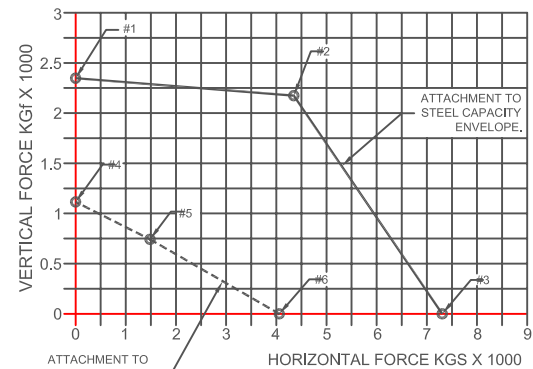

FIGURE 1
1) READ THE ANCHORED (CONCRETE) OR BOLTED (STEEL) ENVELOPES DIRECTLY FROM FIGURE 1 AT RIGHT
- 3) PLOT THE VERTICAL RESTRAINT CAPACITY FROM CURVE #1 (FIGURE 2) OR #4 (FIGURE 3) ON THE VERTICAL AXIS OF FIGURE 1.
- 4) PLOT THE HORIZONTAL RESTRAINT CAPACITY FROM CURVE #3 (FIGURE 2) OR #6 (FIGURE 3) ON THE HORIZONTAL AXIS OF FIGURE 1.
- 5) PLOT THE COMBINED RESTRAINT CAPACITY FROM CURVE #2 (FIGURE 2) OR #5 (FIGURE 3) AT THE POINT ON FIGURE 1 WHERE THE VERTICAL AND HORIZONTAL FORCES BOTH MATCH THIS VALUE.